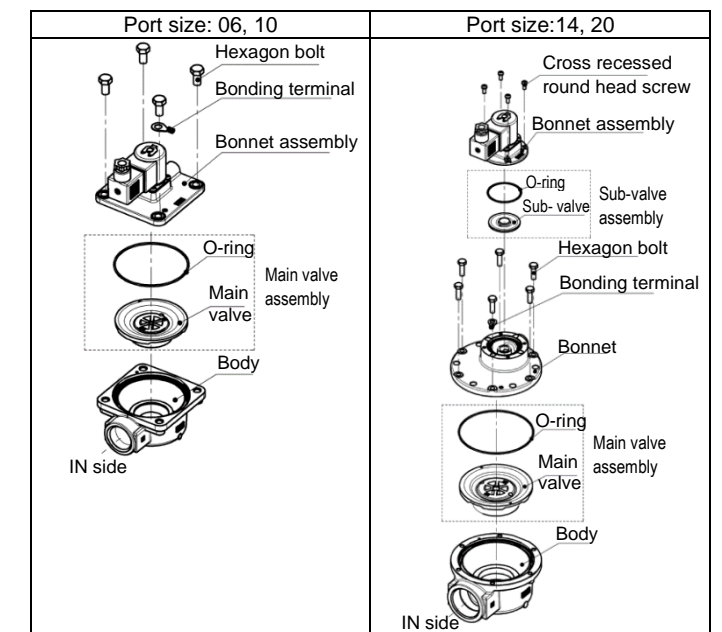

Fig.6
- Loosen the hexagon bolts (and/or cross recessed round head screws) and remove the bonnet, O-ring, and main valve (and/or sub-valve). See Fig.6.
- Assemble the bonnet onto the body (refer to Fig.6).